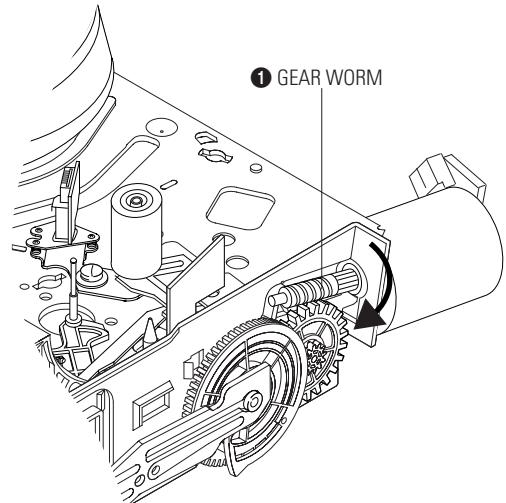

Fig. 3-33 How to Eject the Cassette Tape
- 3) Rotate Gear Worm ① clockwise using screw driver again up to the state of eject mode and then pick out the tape.(Refer to Fig.3-33)